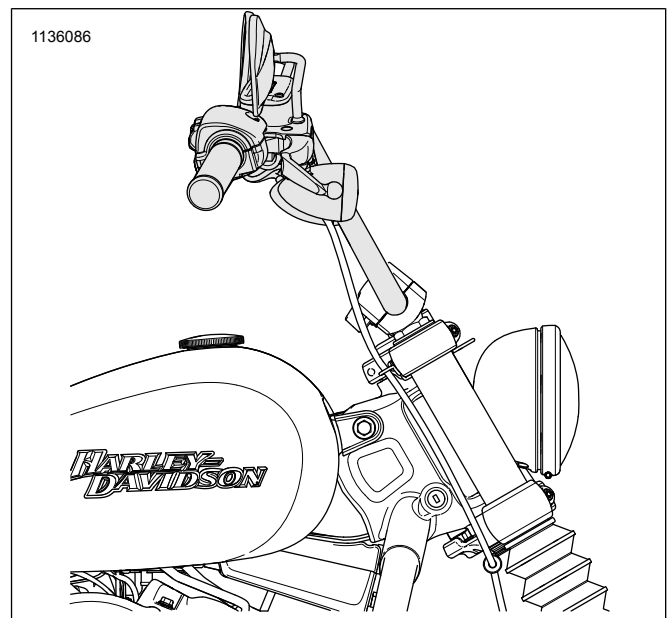
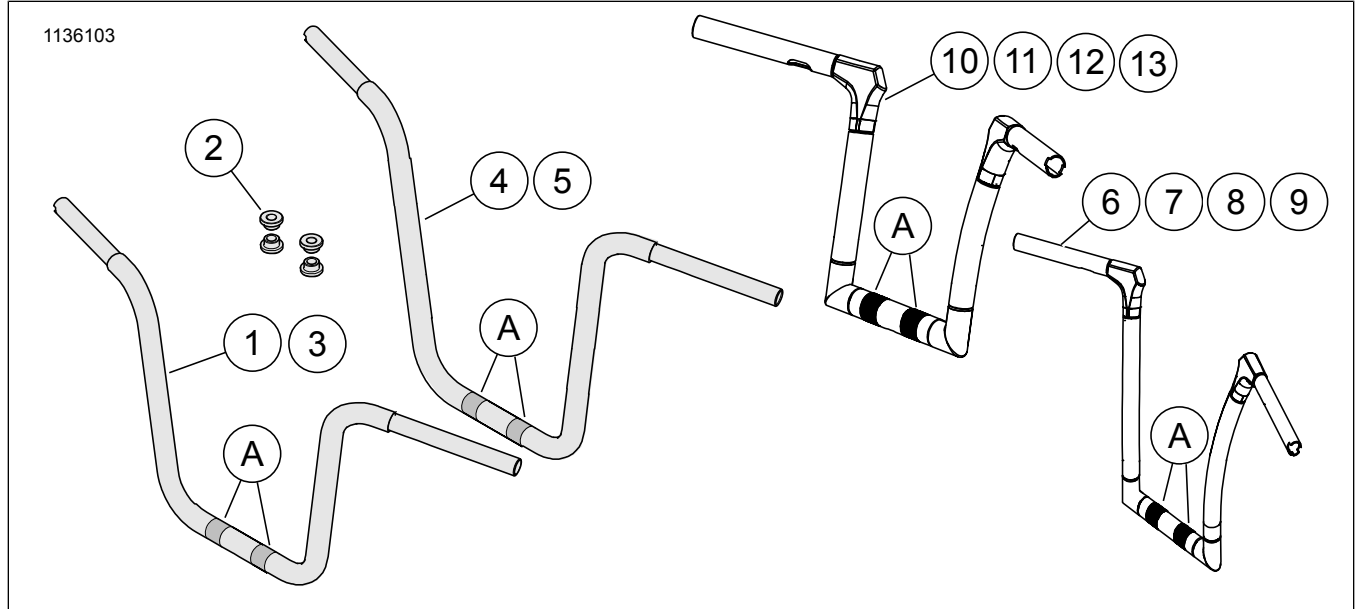

Figure 4. Handlebar Install Orientation (typical)
Figure 5. Service Parts: Handlebar
1. See Figure 5. Install the handlebar (1) to the riser base, routing the wire bundles down through the upper fork bracket.
2. Seat the handlebar with the knurled areas (A) centered on the riser base.
4. See Figure 4. Adjust handlebar angle. The uprights of the handlebar run roughly parallel to the front forks.
6. See Figure 5. Install hole plugs (2) into the handlebar.